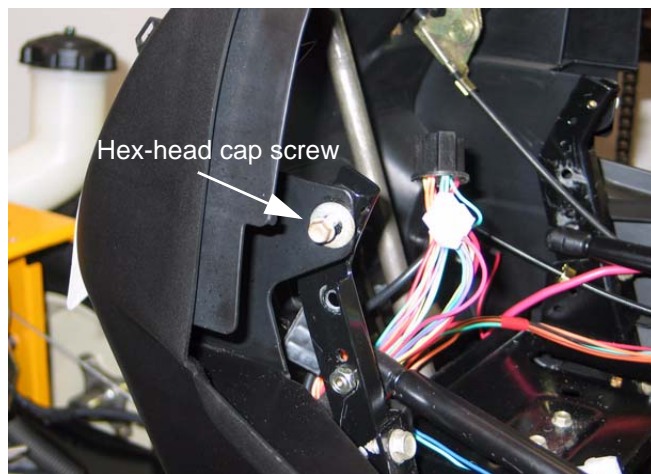

Figure 15.9
- Two hex-head cap screws holding the top of the dash to the dash support (3/8" wrench). See Figure 15.9.